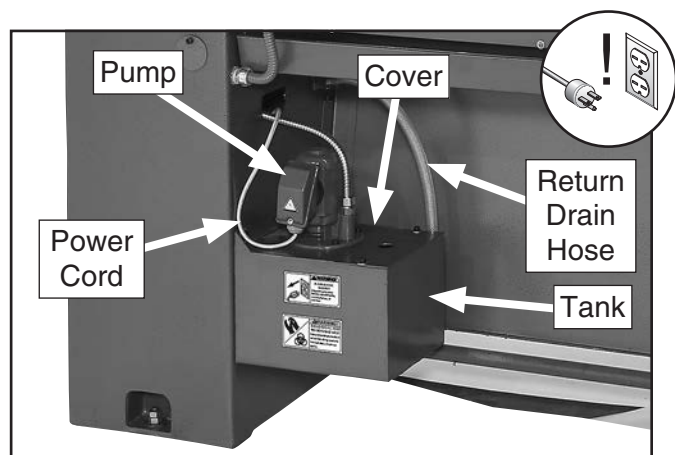

Figure 119. Location of coolant tank and pump.
2. Remove return drain hose (see **Figure 119**) from hole in top of tank and pour coolant into tank until it is approximately 1" from top.
6. Remove cover (see **Figure 119**) and pour remaining coolant into 2-gallon bucket and close lid.